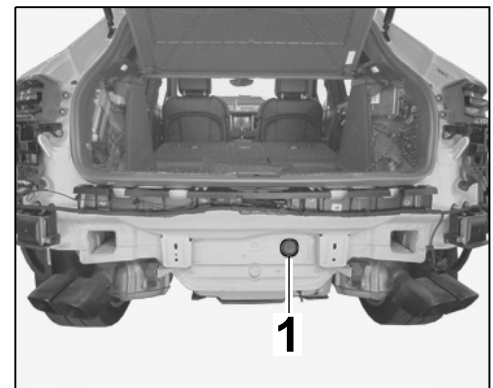

Figure 17
3.2 Remove dummy plug from rear closing panel (⇒ *Figure 17*).